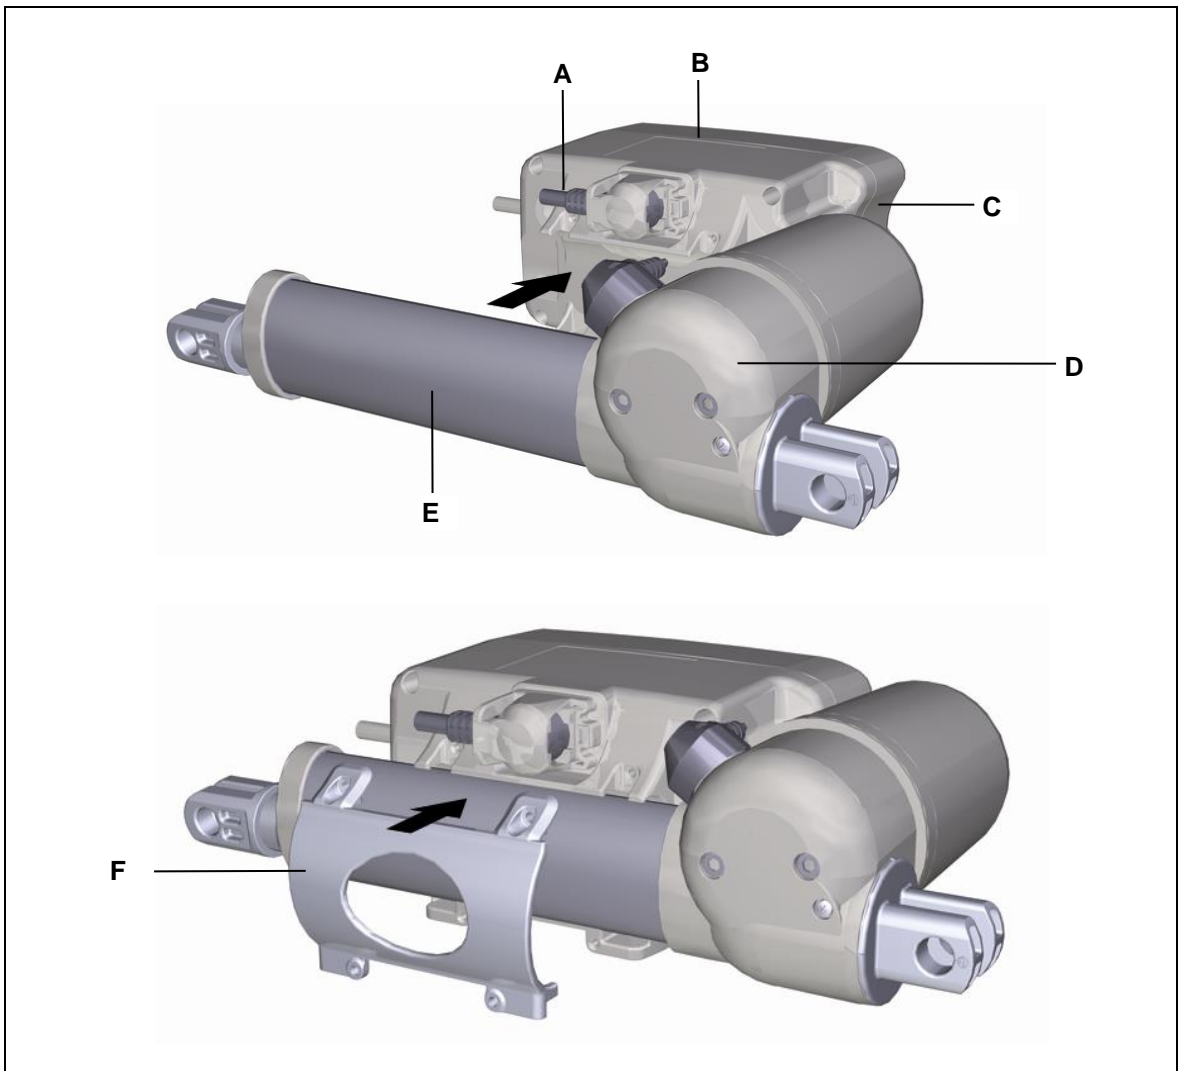
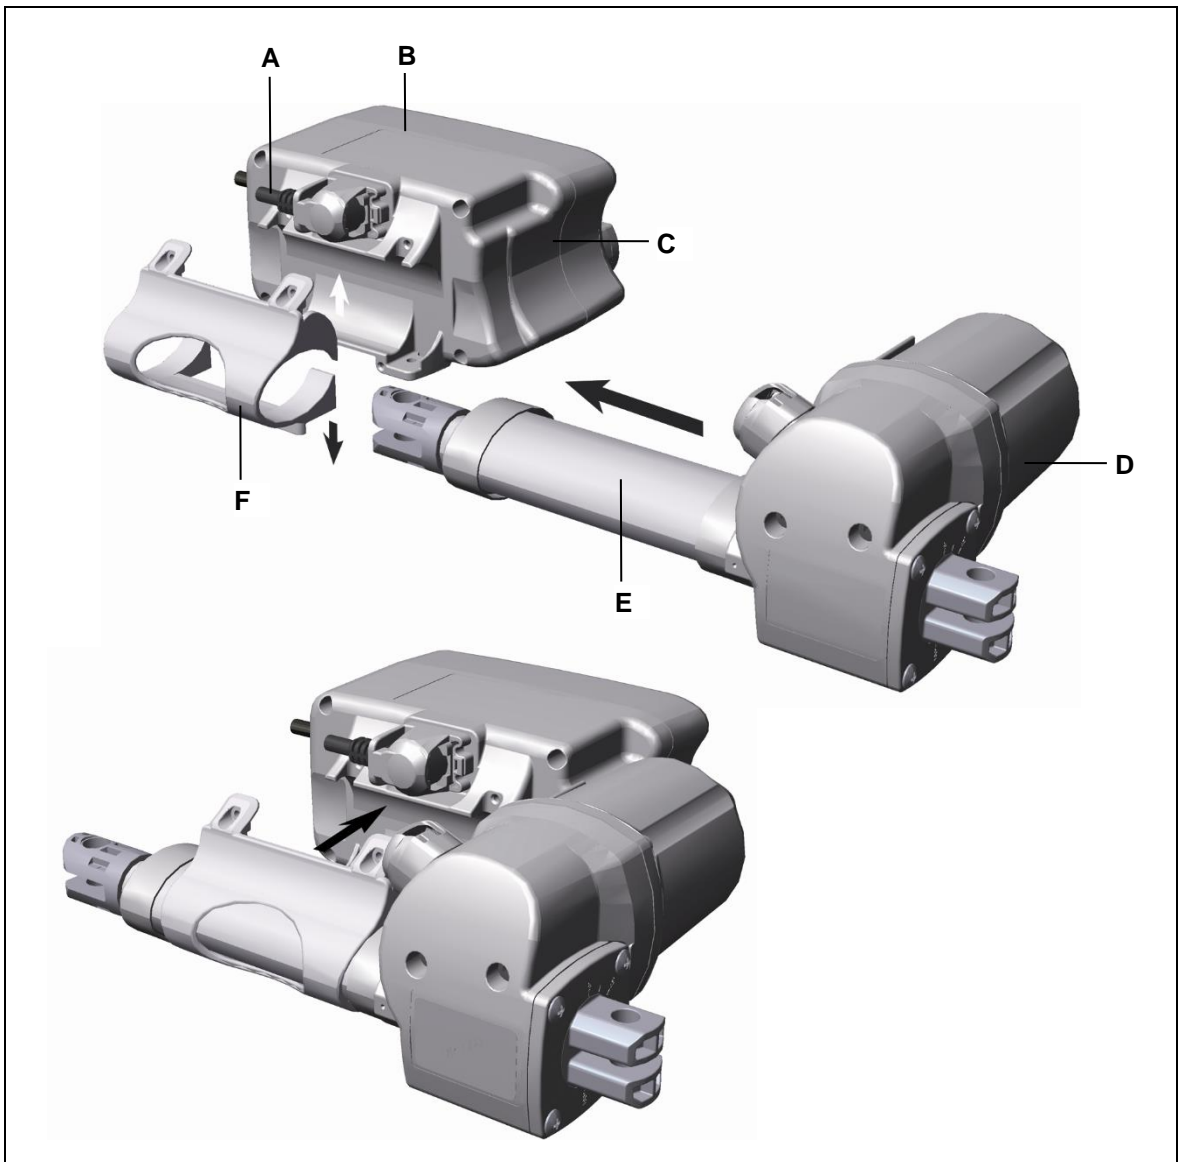

Figure 12 Fitting the MEGAMAT MCZ drive onto the MCL II control unit
Figure 14 Fitting the MEGAMAT MFZ drive onto the MCL II control unit
- 1 Slide the MCZ drive's guide flange (E) into the mounting clip (F) so that the motor casing cover lies in the guide (C) as shown in Figure 12.
- 2 Screw the mounting clip (F) onto the MCL II control unit.
- 1 Slide the mounting clip (F) over the flange guide (E) of the MFZ drive as shown in Figure 14. To do this pull the mounting clip apart slightly.
- 4 Remove all the screws from the mounting clip (F) as shown in Figure 12 or Figure 14.